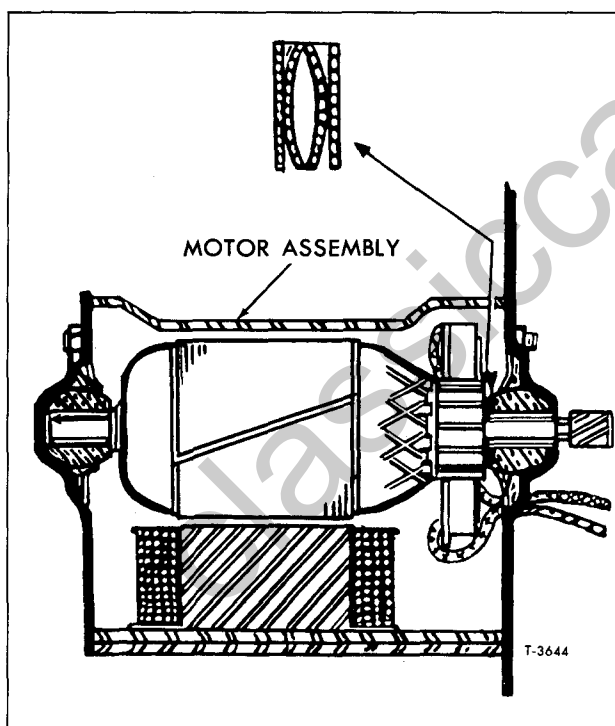

Figure 16—End Play Wave Washer Installation
3. Slide armature and end plate from motor frame and field. Note arrangement of wave washers (fig. 16) on gear end of armature shaft before removing to assure proper installation upon motor assembly.
NOTE: Be sure wave washers on armature shaft are installed properly as shown in figure 16. Lightly lubricate armature shaft bushings with light machine oil. Be sure brushes are properly positioned in holders before armature commutator protrudes between brushes.